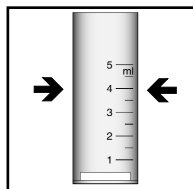

Figure 1
1. Fill the sample cup to the 4 mL mark with the sample to be tested (fig 1).